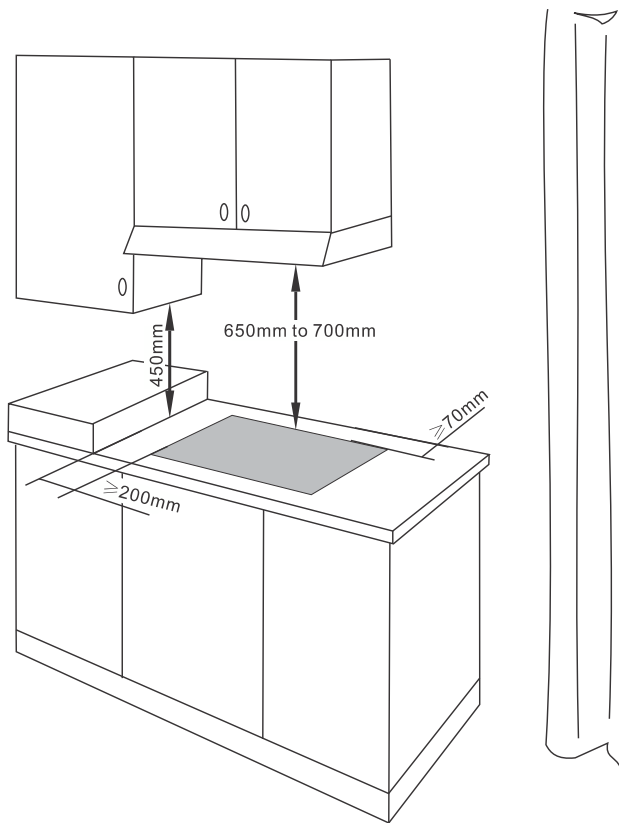

Fig.5
- ✓ the hob must be installed at least 70mm away from the rear wall(Fig.5).
- ✓ there must be a distance of at least 650 mm to 700mm between the hob's trivet and any wall cupboard or extractor hood positioned immediately above (Fig.5).